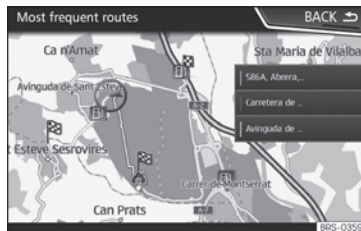

Fig. 224 Predictive navigation
- On the main screen of the Navigation menu, in the pop-up window, press the **(FREQUENT ROUTES)** button. To display frequently followed routes press the **(Show on map)** button »» **Fig. 224**.